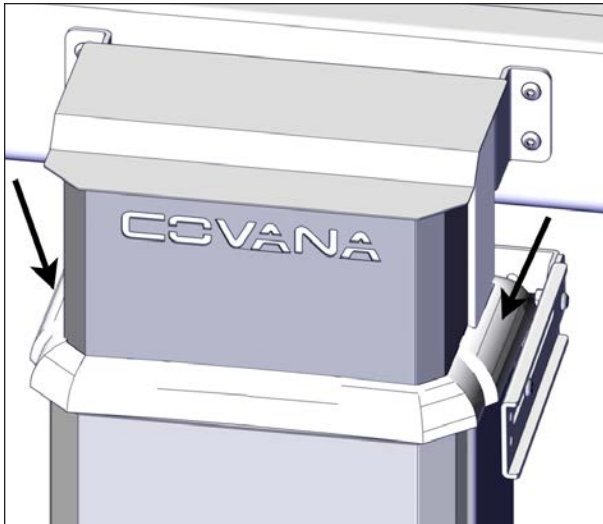

FIGURE 82: SEAL INSTALLATION
27. For all posts, slide the all-weather seals down. Ensure they are properly seated on the outer sleeve base. Push down on the seal as shown in Figure 82.